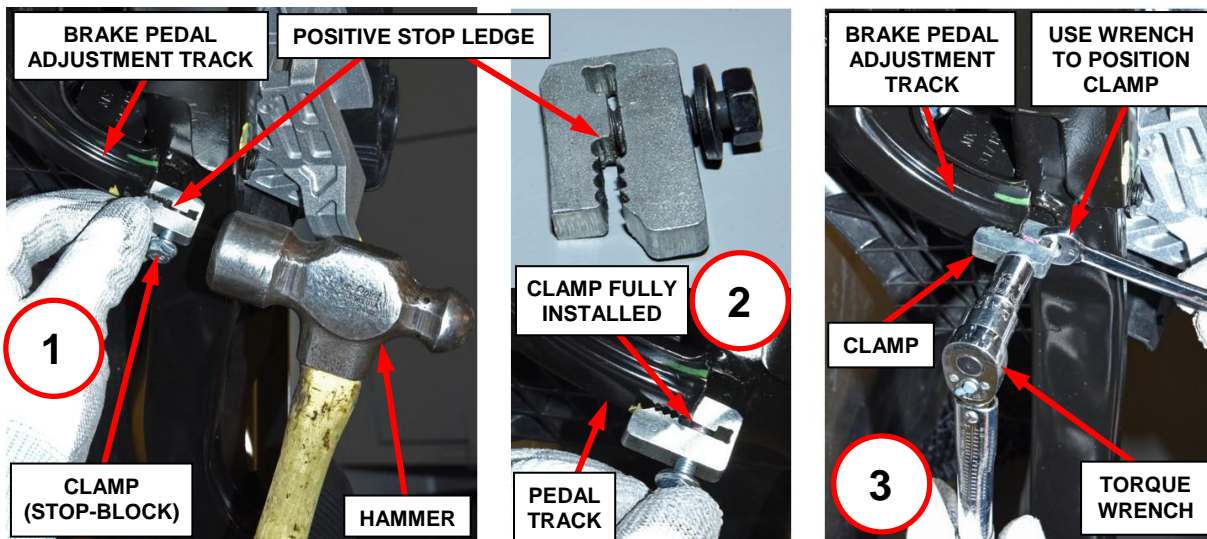

Figure 7 – Clamp (Stop-Block) Installation to Brake Pedal Adjustment Track
- 9. Fully install the clamp until the positive stop ledge comes in contact with the brake pedal adjustment track. Use a wrench or similar tool to position and hold the clamp from rotating while tightening the clamp bolt to 10.5 N·m (93 in. lbs.) (Figure 7).